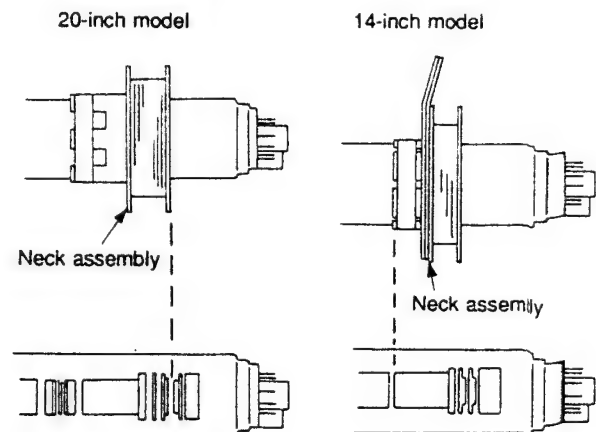

Fig. 1-3.
6. Secure the neck assembly in the position shown in Fig. 1-3.